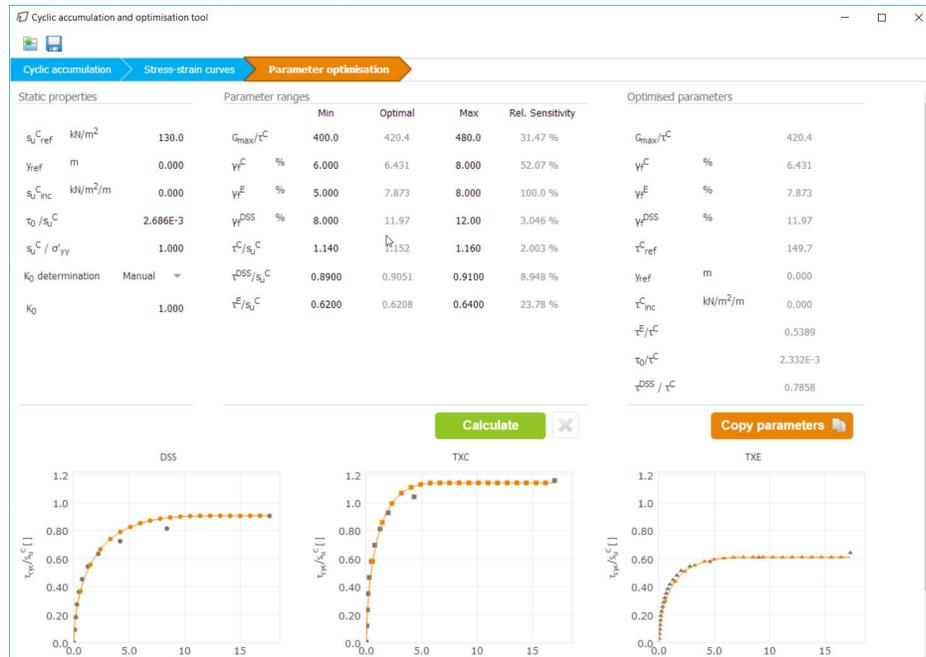

Figure 105: Optimised parameters for total load
4. Click **Calculate** to obtain optimised parameters (Figure 105 (on page 122) and column Optimised value of Table 20 (on page 121)).